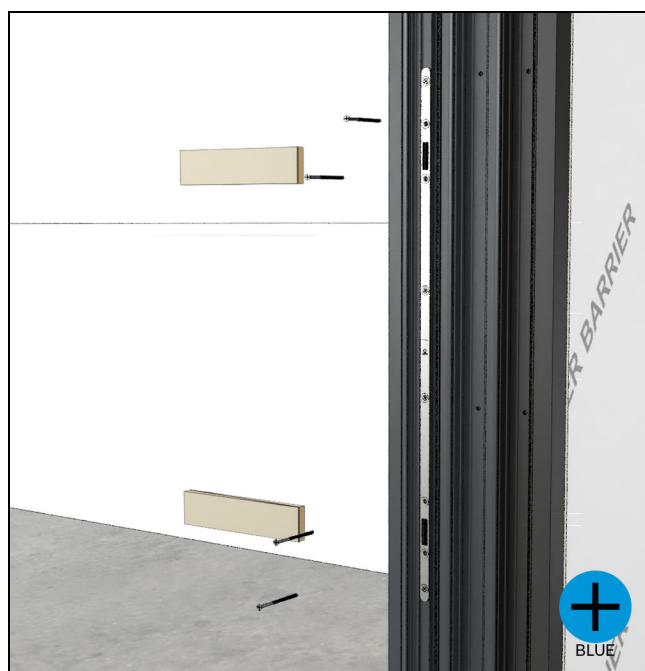

Figure 77
12. Shim and fasten with #8x3"(76) screws provided. See Figure 77.